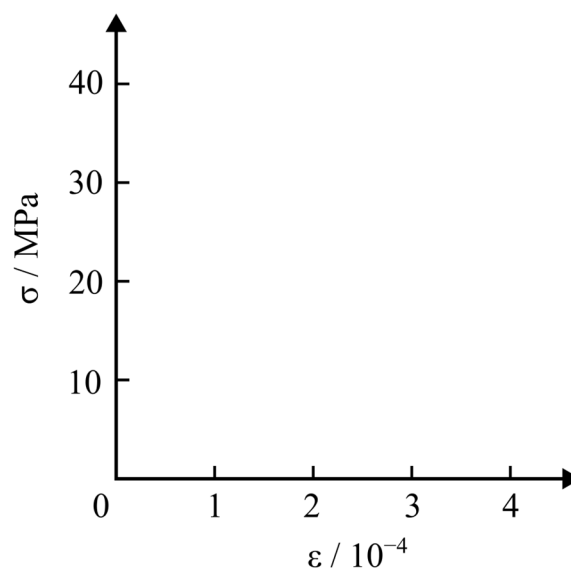

Figure 2
- (3) When the tensile axis is along the x direction, obtain the tensile stress and tensile strain at the yield point with two significant digits.
- (4) When the tensile axis is along the y direction, the laminated material exhibits two-step yielding. Obtain the tensile stress and tensile strain at the first yield point with two significant digits.
- (5) In the case of Question (4), obtain the tensile stress and tensile strain at the second yield point with two significant digits.
- (6) Copy Figure 2 to the answer sheet and draw stress–strain (σ – ϵ) diagrams in two cases with tensile axes along the x and y directions.